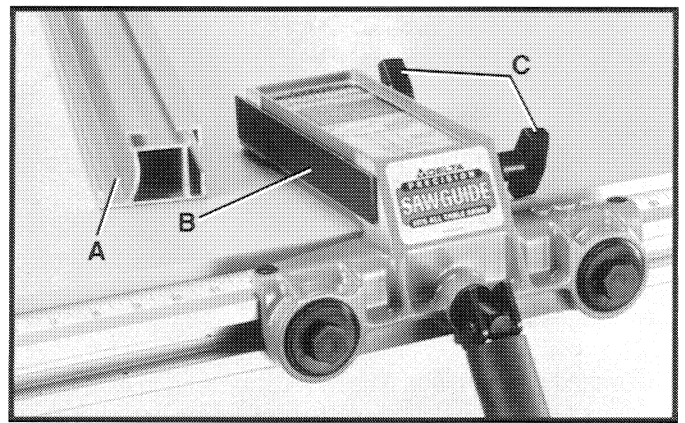
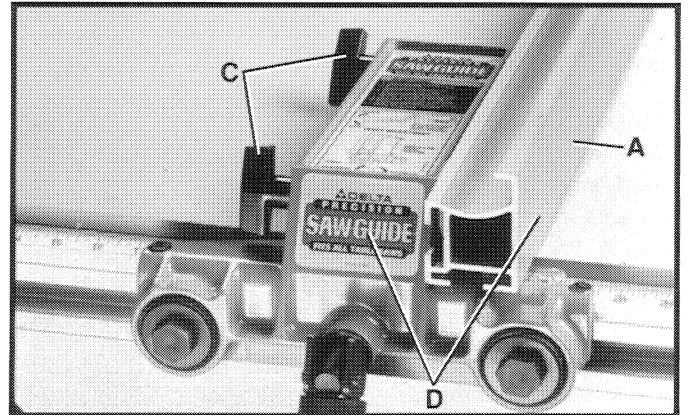

Fig. 89
Fig. 90
In some cases it may be desirable to use the fence on the left side of the saw blade. This is easily accomplished by repositioning the fence (A) Figs. 89 and 90, fence clamp bar (B) and lock knobs (C) so that the fence (A) will be attached to the right side of the fence body, as shown in Fig. 90. The complete fence assembly (D) Fig. 90, can easily be moved to the left side of the saw table.